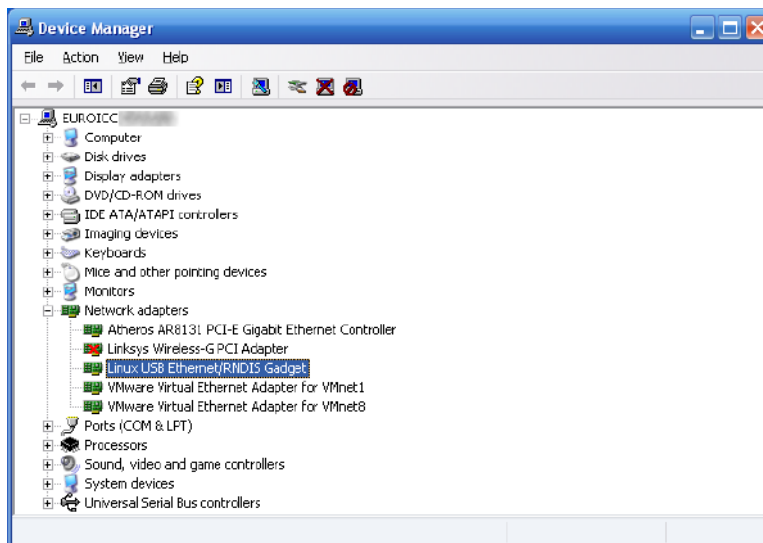

Figure 36
Step 13: Result of installation is shown on Figure 36